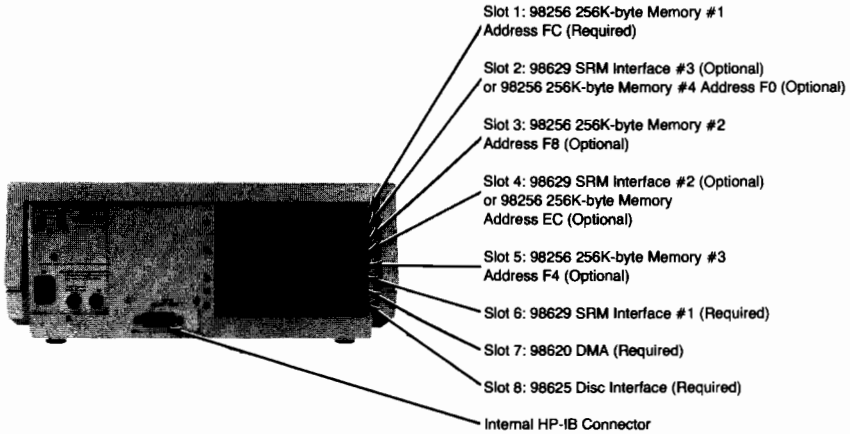

Figure 3-7. Backplane Slot Assignments
6. Controller installation data. Figures 3-7 thru 3-11 show the installation/configuration switches. Full information on the allowable configurations is contained in 98028-90000. Shared printers can be connected in star, tree, or daisy chain, with daisy chain being the most practical (keep connector piggybacks to a maximum of three on the SRMs motherboard).